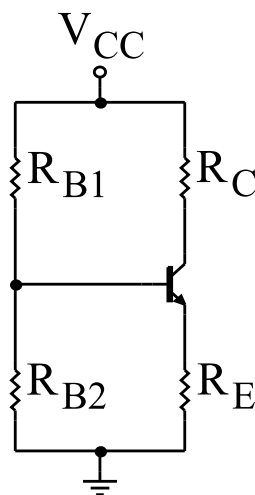

Figure 2.4
- c) Figure 2.4 shows a simple bias network for an npn transistor amplifier (works for both the CE and CB amplifiers). With proper selection of the values of  $R_{B1}$ ,  $R_{B2}$ ,  $R_C$ , and  $R_E$  we can bias the transistor in its active region. Use  $V_{CC} = 15\text{ V}$  and  $I_C = 1\text{ mA}$  in the following.